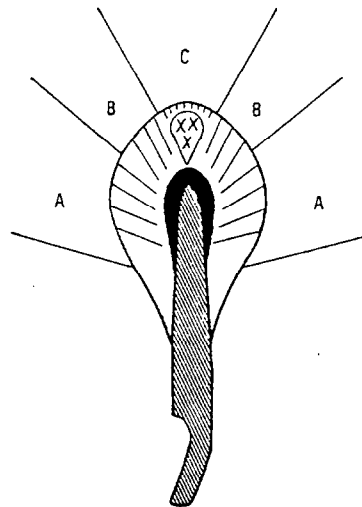

figure 7
Figure 7 shows a cross-section of a bass hammer, illustrating its sections,
3. Deep-needle sample hammers in the A section of the shoulders of each hammer until the first reduction in harshness is perceived. (see figure 7 and photos 9 and 10) a) Place hammer support board on top of the repetition levers and backchecks as a bridge between them and rest the hammer tails on to of it. (see photo #8) b) Use needles judiciously. c) Listen to the sound of the sample hammers. Do some test needling until it is determined how much needling must be done. d) Needle each hammer systematically, taking note of the number